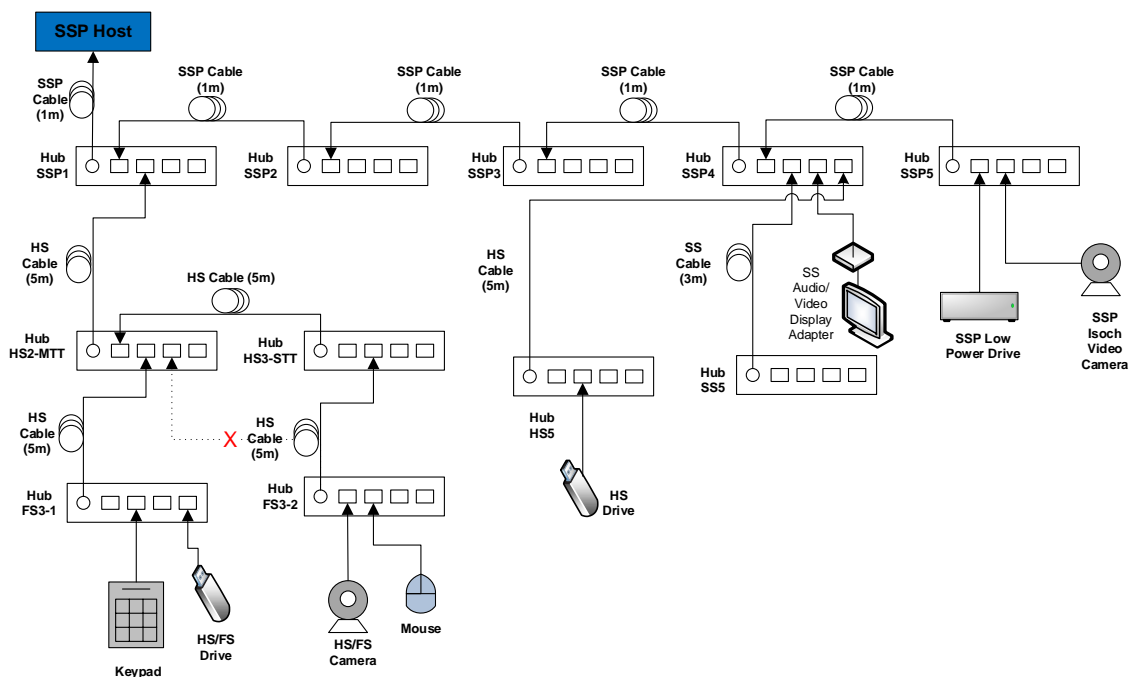

Figure 5-3: Topology Change 1
- Reattach Hub FS3-2 to port 2 on Hub HS3-STT as shown in Figure 5-3 and Figure 5-4.
Detach Hub FS3-1 from port 1 on Hub HS3-STT and reattach the Hub FS3-1 back to port 2 on Hub HS2-MTT. This should set the configuration back to what is displayed in Figure 5-3 and Figure 5-4.